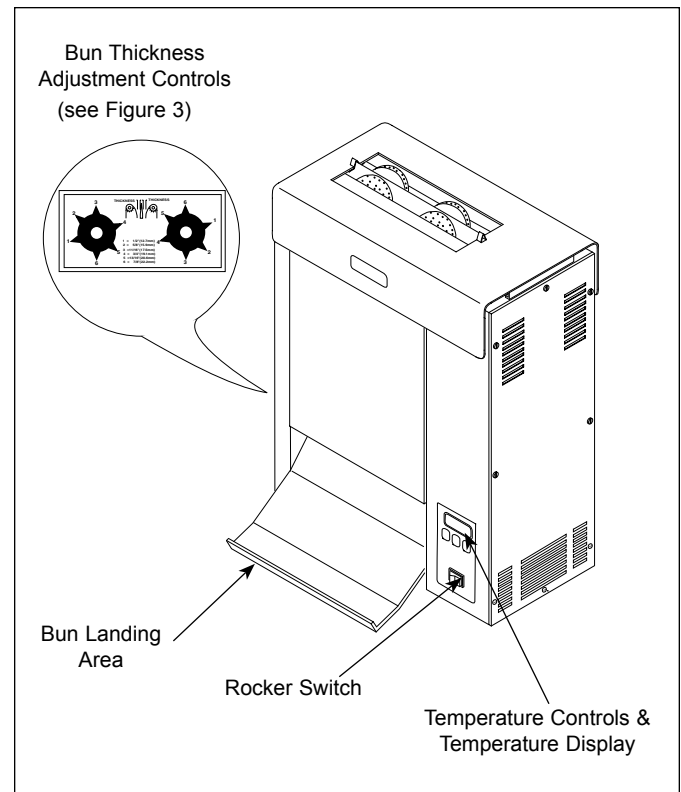

Figure 2. VCT-2000 Toaster
2. Turn the Rocker Switch (power On/Off) to ON. (Figure 2). Allow 30 minutes warm-up time before proceeding.
NOTE: The temperature display (Figure 2) will flash "LO" until preset operating temperature is reached. When the toaster approaches the preset temperature of 570°F (299°C), "USE" will appear in the temperature display and the unit is ready to toast buns. If "USE" does not appear in the window after warm-up period of approximately 30 minutes, contact your Roundup Authorized Service Agency.
3. Drop buns into toaster (Figure 2). Cut sides of heel and crown must face each other.
4. Toasted product will drop into the bun landing area (Figure 2).